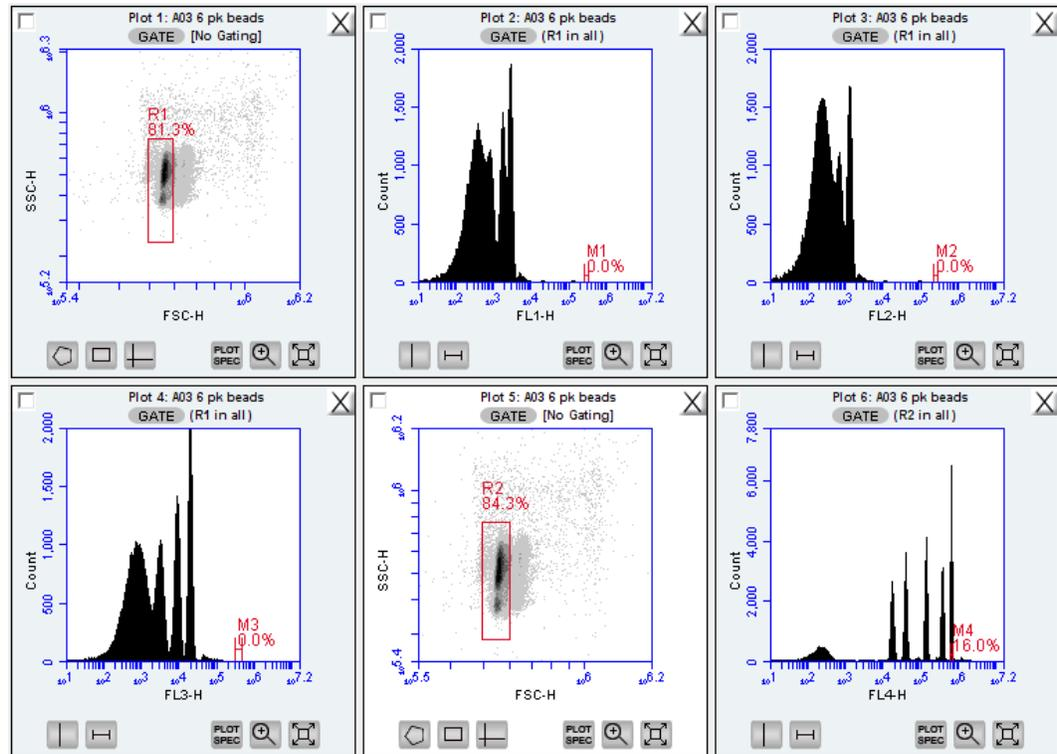

Figure 3-14. 6-Peak Validation Bead Data
- Adjust the pre-drawn region R2 in the 6-peak scatter plot FSC-H vs. SSC-H to encompass the main population (similar to the procedure for the 8-peak beads). This population should look like an exclamation point. The R2 region should encompass the entire exclamation point (Figure 3-14).
- Measure the CV of the top (brightest, far right) peak by adjusting the marker in the FL4-H plot so that it is placed tightly around the peak. See the plots in Figure 3-14 for an example of good 6-peak bead data. Look for the following: